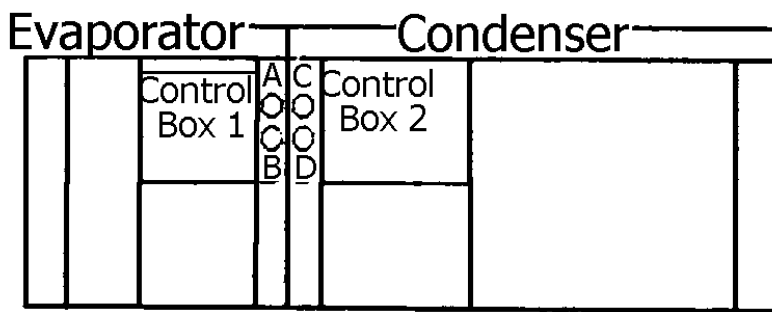

Fig. 3
4. Remove and discard the wires which run between the two internal control boxes. (See Fig. 3)
SPLIT SYSTEM (SEE FIG. 3)